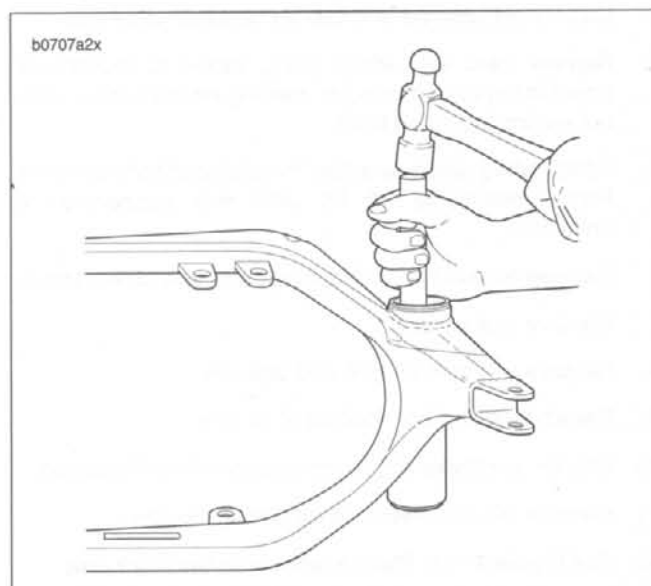

Figure 2-115. Removing Roller Bearing Cups
3. See Figure 2-115. Carefully press roller bearing cups from swingarm using STEERING HEAD BEARING RACE REMOVER (Part No. HD-39301A) and UNIVERSAL DRIVER HANDLE (Part No. HD-33416).